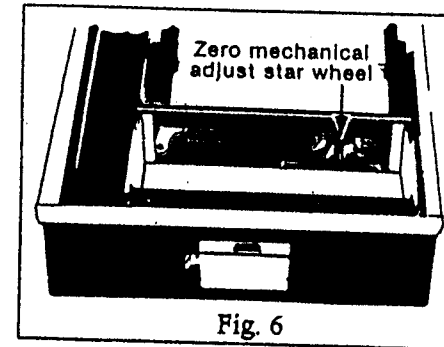

Fig. 6
- b) With strip chart roll removed from the chart well, the zero adjust star wheel is located at the bottom of the chart well (See Fig. 6).